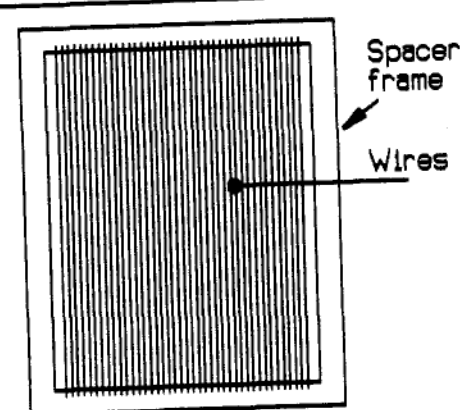

FIGURE 10-21: Rigid wire construction.
**RIGID-WIRE STATORS.** An easy way to visualize the construction of a rigid-wire stator is to imagine that you removed the metal from a perforated-metal stator and laid rigid wires side-by-side in its place (Fig. 10-21).